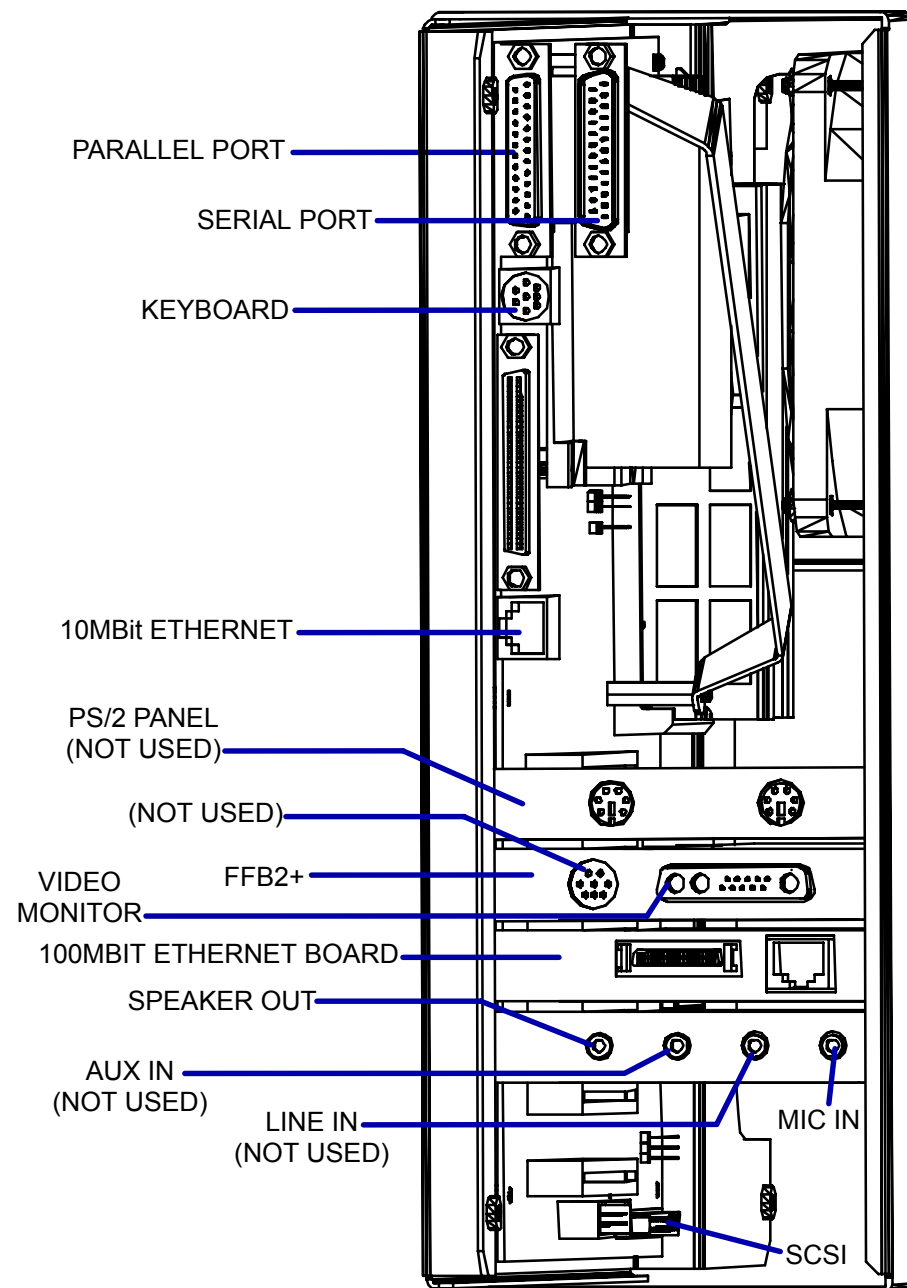

FIGURE 346 ULTRA SPARC MOTHERBOARD
2. Refer to Figure 346. Disconnect (and label if necessary) the cables from the rear of the UltraSparc motherboard. Disconnect the other cables from the front of the motherboard (SCSI, power cable to SPC, fan power cable, etc).
6. Attach all cables that were removed. Refer to Figure 346 for locations.